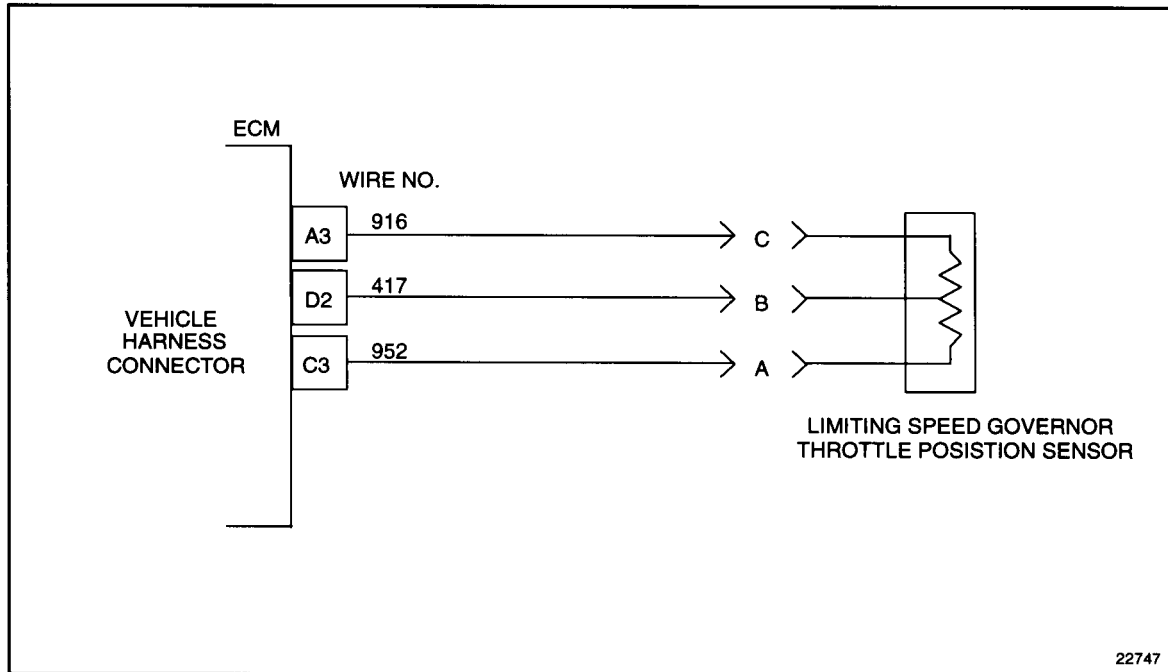

Figure 21-2 Throttle Position Sensor
4. Measure resistance between sockets C3 and D2 on the vehicle harness connector. For Throttle Position Sensor schematic, See figure 21-2.